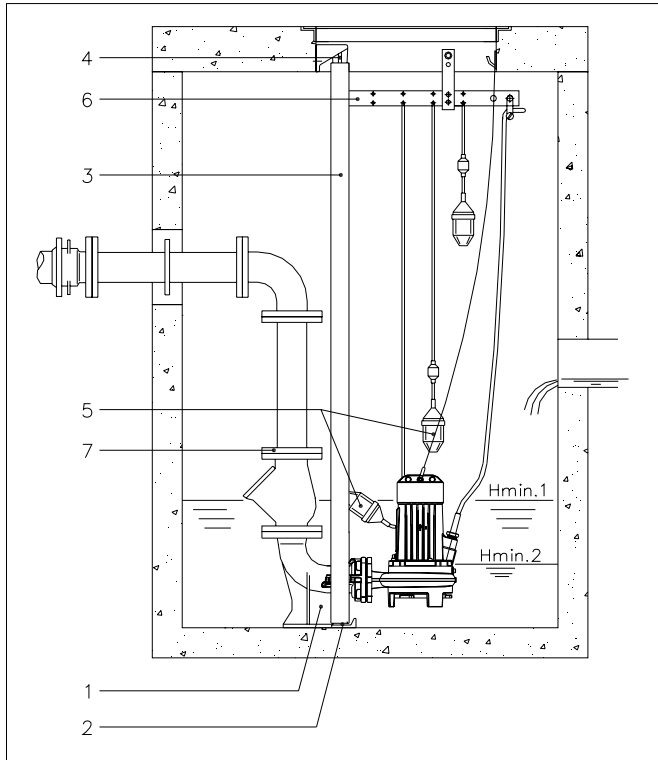

Fig. 6.2
- Check that the motor is adequately cooled. The motorhousing should be at least 2/3 submerged for continuous operation at full load (see Hmin.1 Fig. 6.2).